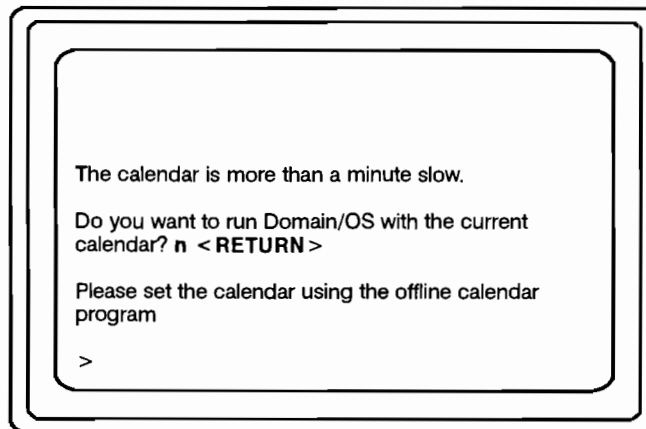

Figure 2-1. Running the *calendar* Program
3. If you receive one of the messages shown in Figure 2-1, you need to set the system's calendar. Respond to either of these screen prompts as shown in Figure 2-1.